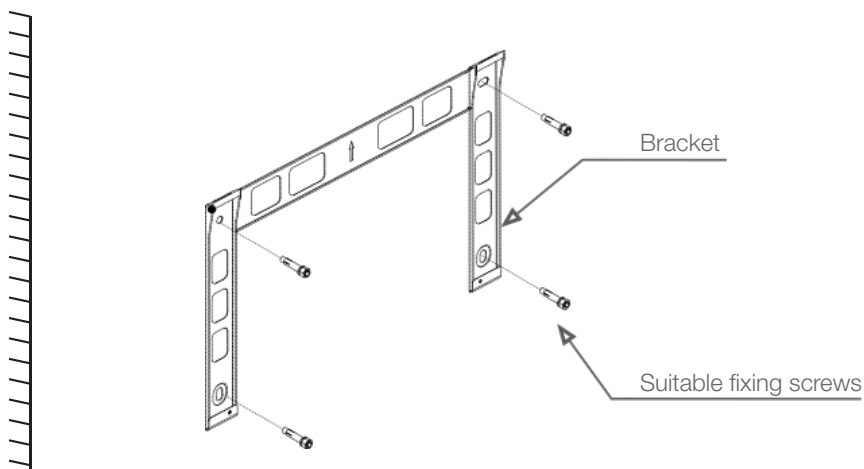
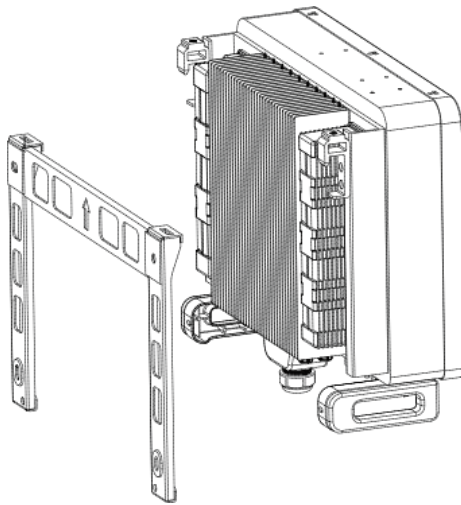

Figure 5.4 Inverter wall mounting
Figure 5.5 Install the inverter
Refer to figure 5.4 and figure 5.5. Inverter shall be mounted vertically.
- Refer to Figure 5.4, the holes for expansion bolt based on the hole diameter of bracket (M10*70) , using the percussion drilling with the 10mm drill need to stay vertically on the wall. And the drill hole must be vertically on the wall. And all drill holes' depth is 60mm.
- Make sure the bracket is horizontal. And the mounting holes (in Figure 5.4) are marked correctly. Drill the holes